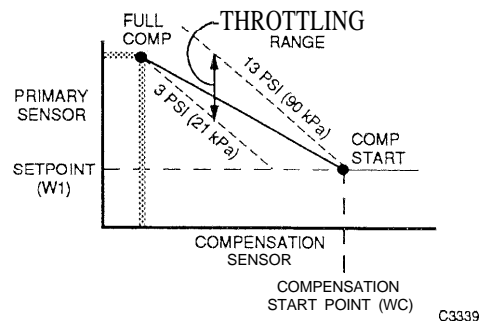

Fig. 10. Negative (Winter) Compensation Calibration Reset Schedule, Direct Acting Controller-3 to 13 psi Throttling Range.
5. Adjust the compensation startpoint knob until the receiver gage indicates pressure equivalent of the compensation startpoint (Fig. 10 and 11).